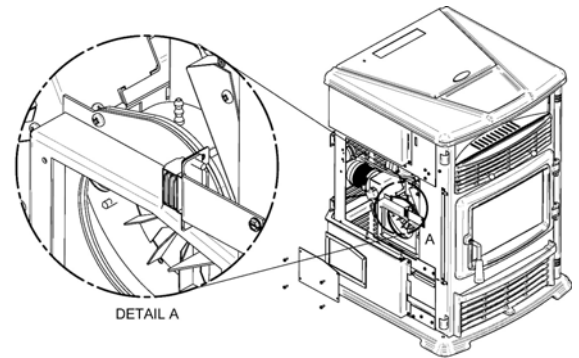

Figure 51
- **Blower Cleaning** – Over a period of time, ashes or dust may collect on the blades of both the combustion/exhaust blower and convection blower. Periodically, the blowers should be cleaned as the ash and dust can impede performance. The combustion/exhaust blower can be accessed by opening the left, right, and back panels.(Figure 51) To clean the blades in the combustion blower housing, insert the vacuum tip through the air inlet damper opening located on the side of the combustion blower housing. Clean thoroughly. To clean the blades in the exhaust blower housing, use a screw driver to remove the cleaning access panel located on the side of the metal box covering the housing. Insert the vacuum tip through the cleaning outlet and clean the blades thoroughly.